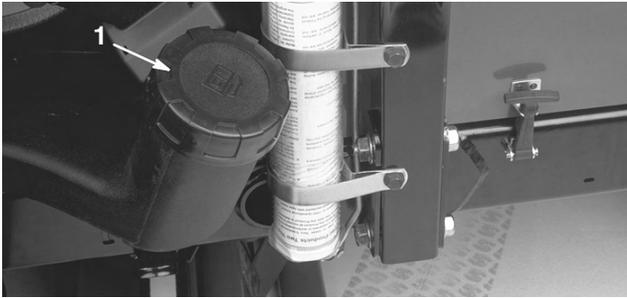

Figure 13
1. Clean the area around the fuel tank cap (Fig. 13).